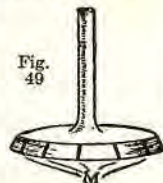

Fig. 49
Fig. 49. Another method to test the finish of a valve-face after grinding: Mark it with a lead pencil as shown about $\frac{1}{4}$ " apart or less. If, after putting the valve in place and after oscillating it about a quarter turn, all marks are erased, the job is satisfactory. The marks (M) on valve are the pencil marks to be erased.